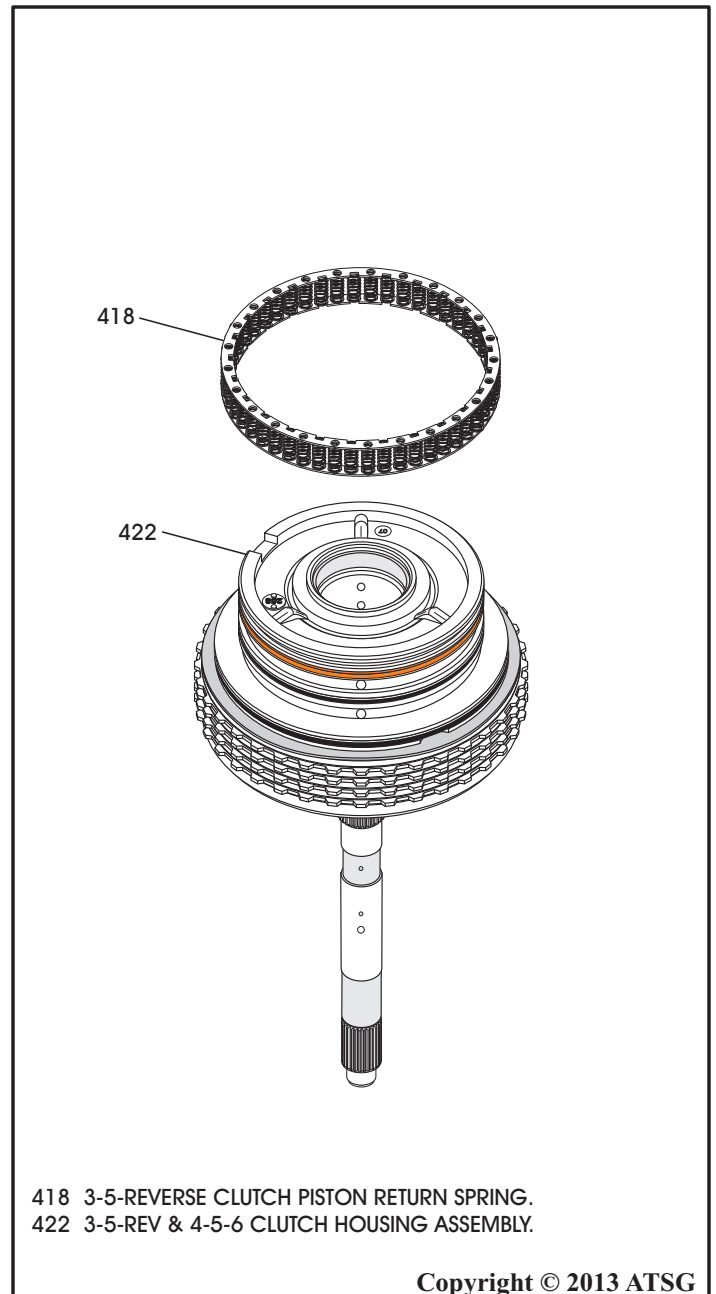

Figure 158
50. Install the 3-5-Rev clutch piston return spring, as shown in Figure 158.